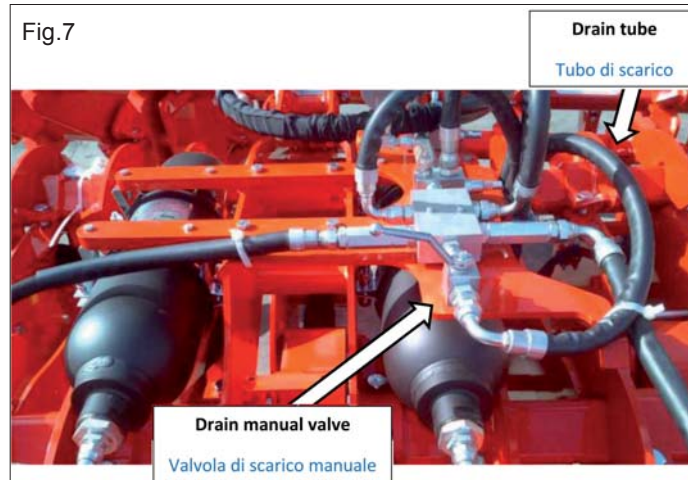

Fig.7
4. Remove the n°4 tine security bolts before in-field operations: these security bolts avoid tine movements. (Fig.7)